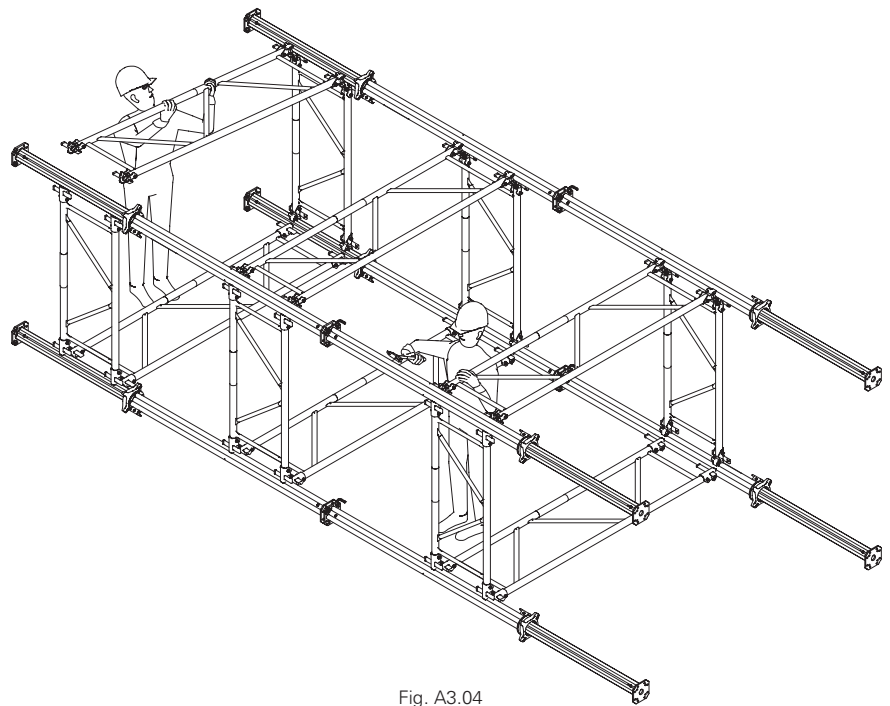

Fig. A3.04
4. Insert the second pair of props into the open wedge connections of the Frames MP MRK (2).
6. Mount the upper Frames MP MRK (2). (Fig. A3.04)